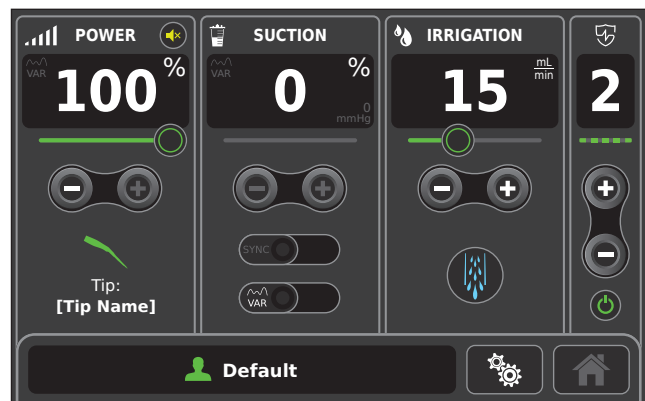

Figure 86 – Suction Control Disabled
- If the console detects a tip without a tip aspiration port, the suction control and SYNC mode button on the display screen are disabled (Figure 86).